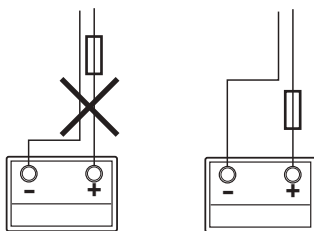

Fig. 49
- The two cables to the positive terminal and to the negative terminal must be routed separately up to the fuse in the positive cable (Fig. 49).